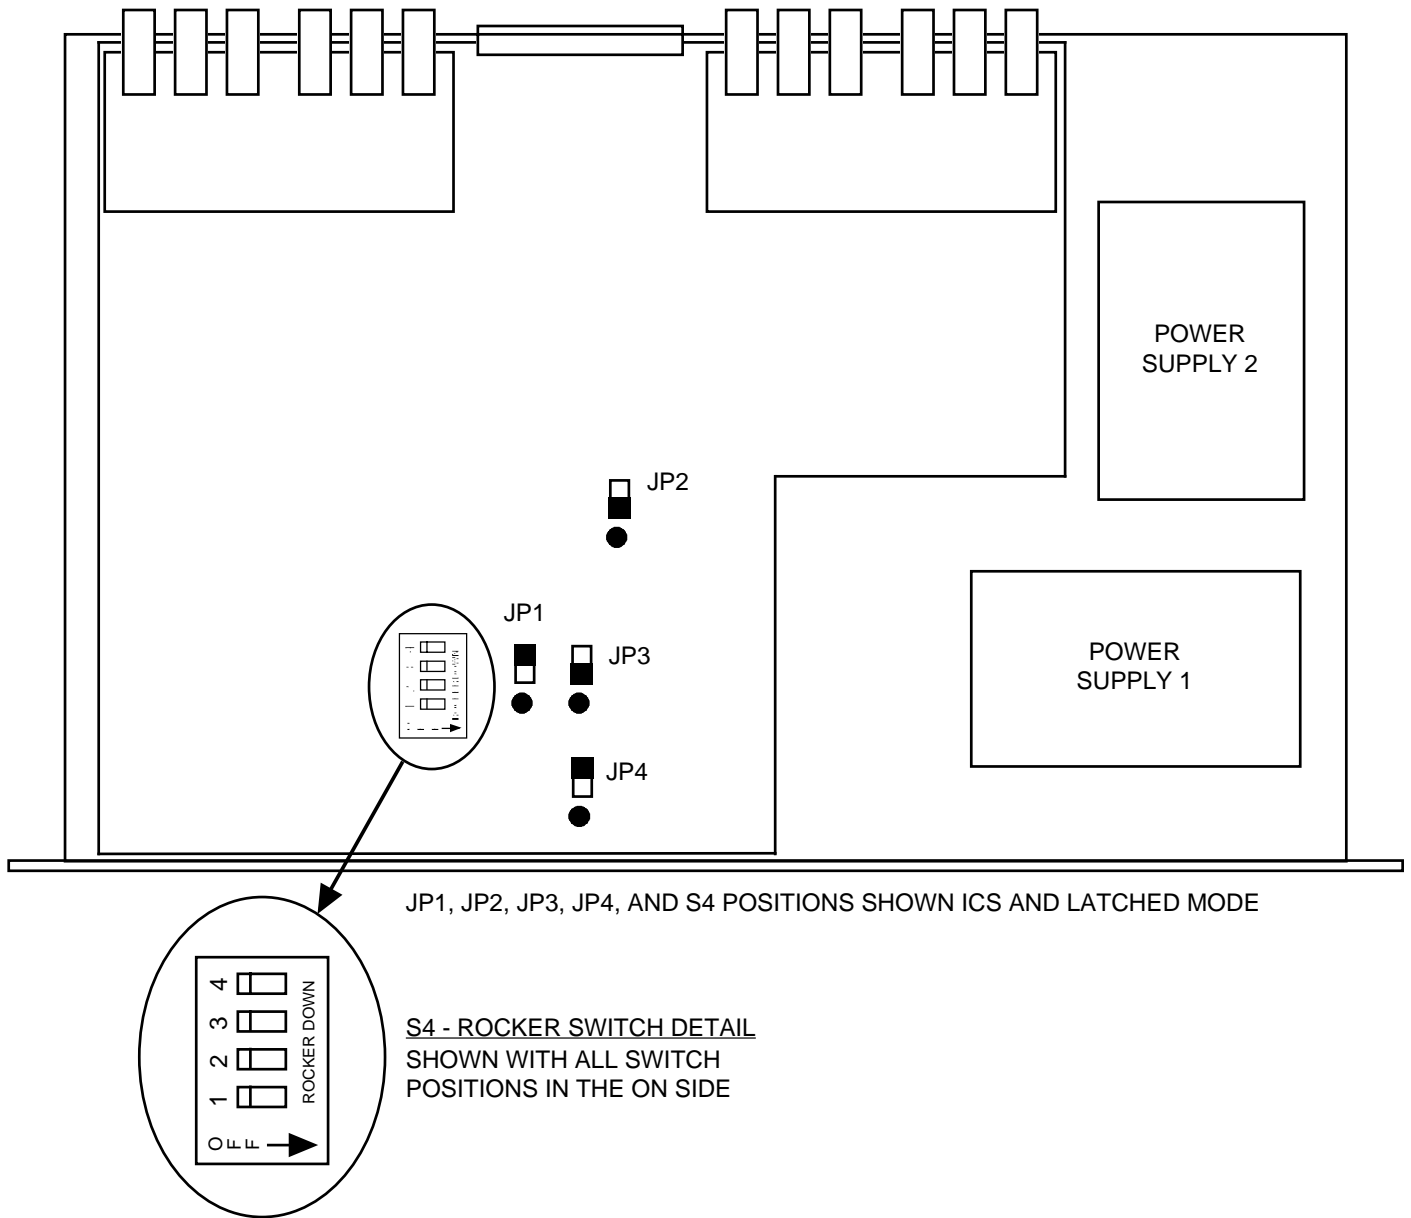

FIGURE 2.1 1582-25L2 RF Switch Assembly
1. Set the on board controls as desired (see Sections 2.3.1 and 2.5, and Figure 2.1).